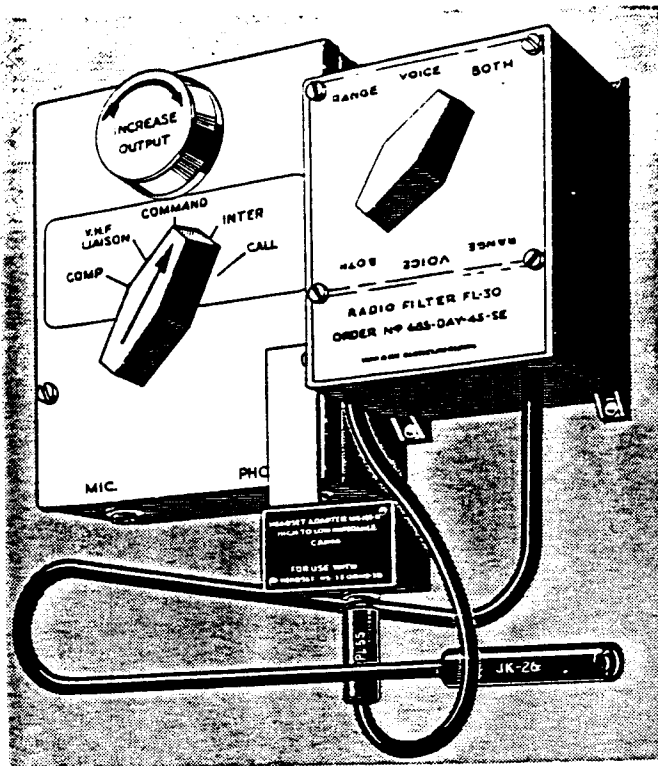

Figure 4. Interphone Jack Box, Filter, and Relay Box
5. FILTER FL-8. (See figure 4.)
a. RADIO COMPASS. (See figure 4.)- To receive the audio output of the Radio Compass place the jack box selector switch in the "COMP" position. In this position terminal post No. 1, figure 5, of the jack box, the Radio Compass Audio circuit, is completed through the variable resistance (controlled by the "INCREASE OUTPUT" knob) to the head-set jack.
c. COMMAND RADIO. (See figure 1.)- To receive the audio output and connect the microphone and headset to the "COMMAND RADIO" place the jack box selector switch in the "COMMAND" position. See figure 4. When the selector switch is in this position, see figure 5, it completes the Command Radio Audio circuit from terminal post 10 to the head set through the variable resistance and phone jack. It completes the command transmitter circuit from terminal post 3 through the microphone jack to the microphone "PRESS-TO-TALK" switch and completes the antenna relay circuit from terminal post 9 through the microphone jack to a second contact on the "PRESS-TO-TALK" switch. When the "PRESS-TO-TALK" switch is pressed it completes the microphone circuit and the antenna relay circuit, the latter disconnects the antenna from the receivers and connects it to the transmitters.
d. INTERPHONE. (See figure 4.)- To use the intra airplane telephone equipment place the selector switch in the "INTER" position. When the selector switch is in this position, see figure 5, it completes the "Interphone Amplifier" circuit from the terminal post 5 directly to the head set through the phone jack without going through the variable resistance. (The "Increase Output" control does not function for the intra telephone.) The microphone circuit from terminal post 4 is completed through the microphone jack to the microphone switch. When the microphone switch is pressed the circuit is completed to the microphone.
e. CALL. (See figure 4.)- To use the "CALL" facility place the selector switch in the "CALL" position and hold it there. (In this position the selector switch is spring loaded and will return to "INTER" when released.) When the selector switch is in the "CALL" position the "Inter Telephone" facilities are available and through terminal post 4, see figure 5, when the "PRESS-TO-TALK" switch is pressed the voice from the calling station is heard in all headsets regardless of the position of the other selector switches, except that the navigator's, engineer's and the four bunk stations cannot be contacted should their selector switches be in the V.H.F. Liaison position for this facility is not wired to these jack boxes in this airplane.
1. JACK BOXES, 452343 and 452397. (See figure 4.)